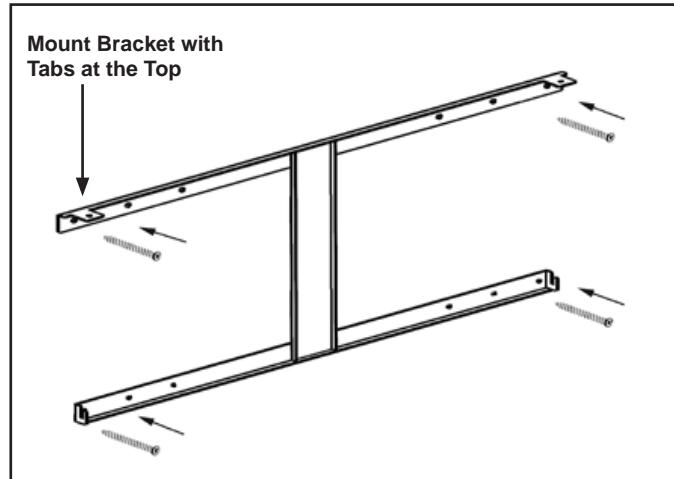

Figure 7 Bracket Attachment
- Orientate the bracket so that its mounting hooks are on the bottom and the bracket tabs are on the top. See Figure 7 and 11.